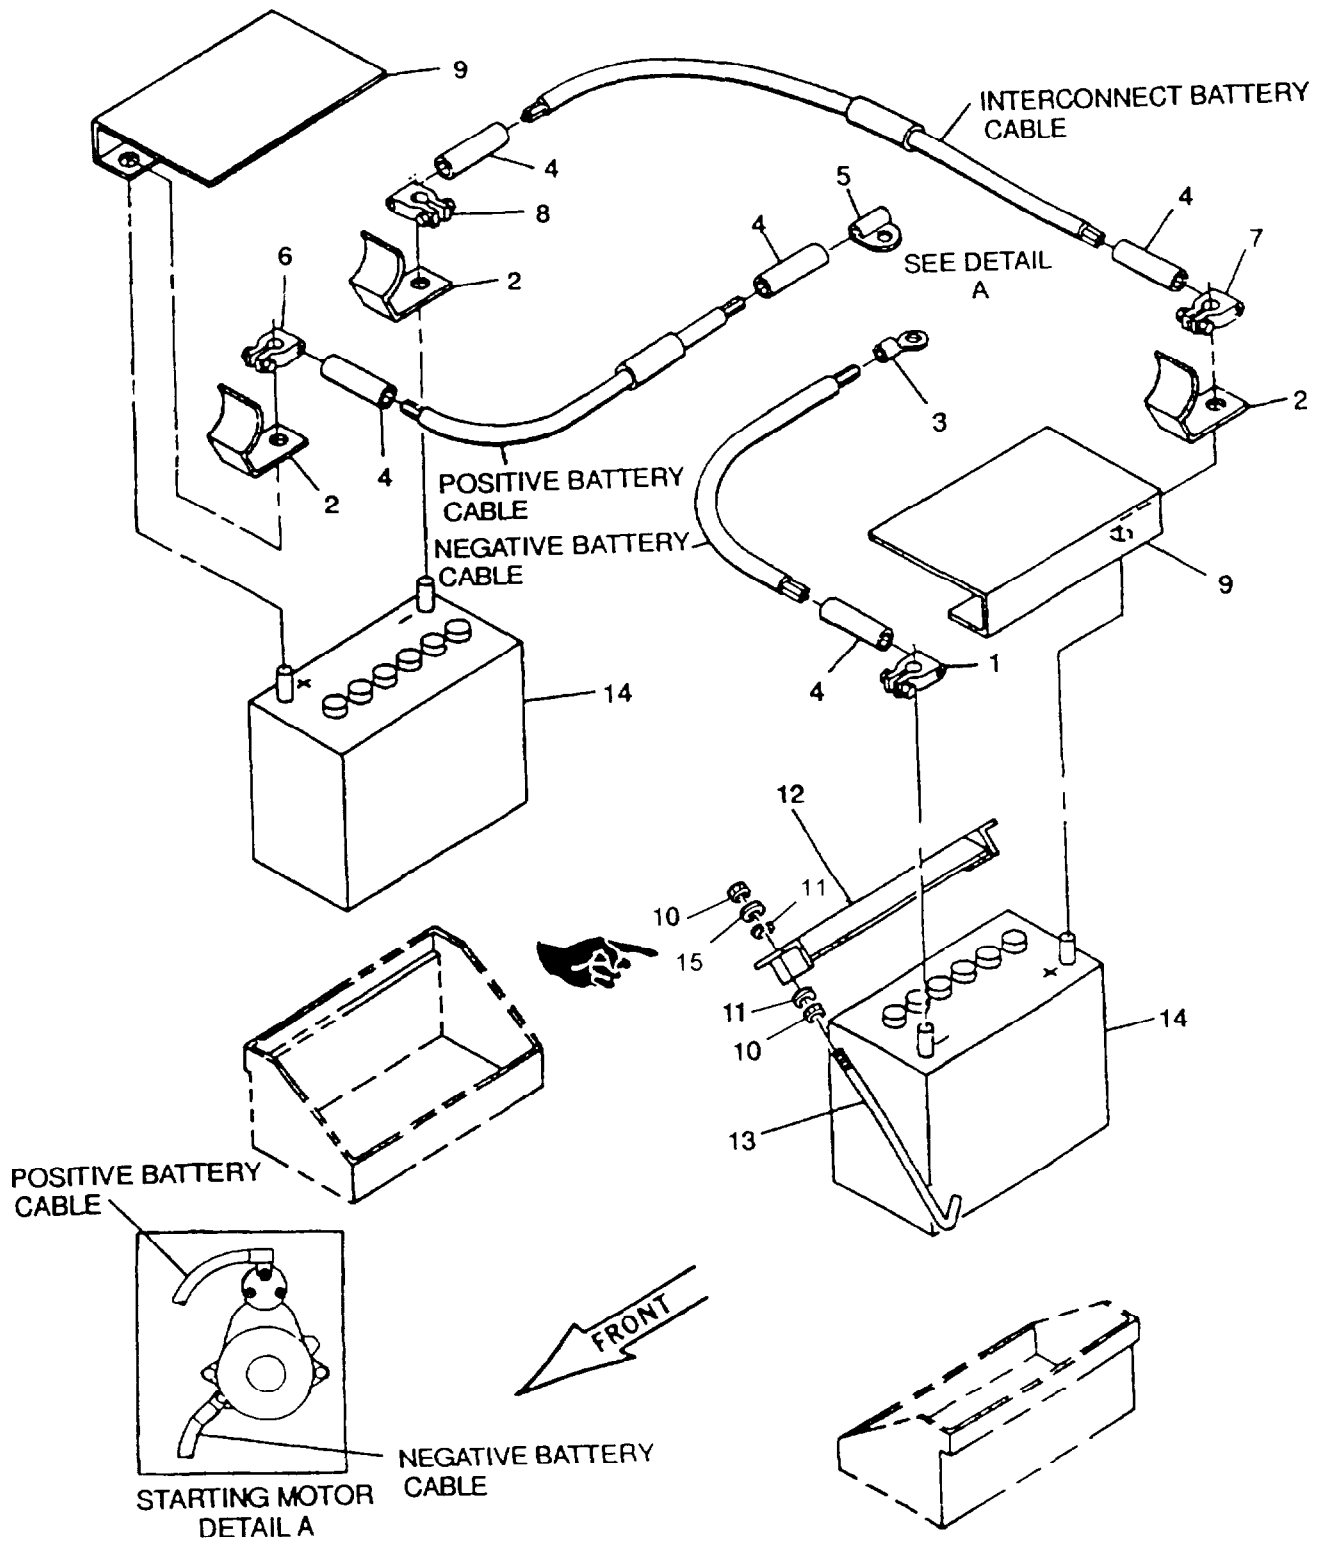
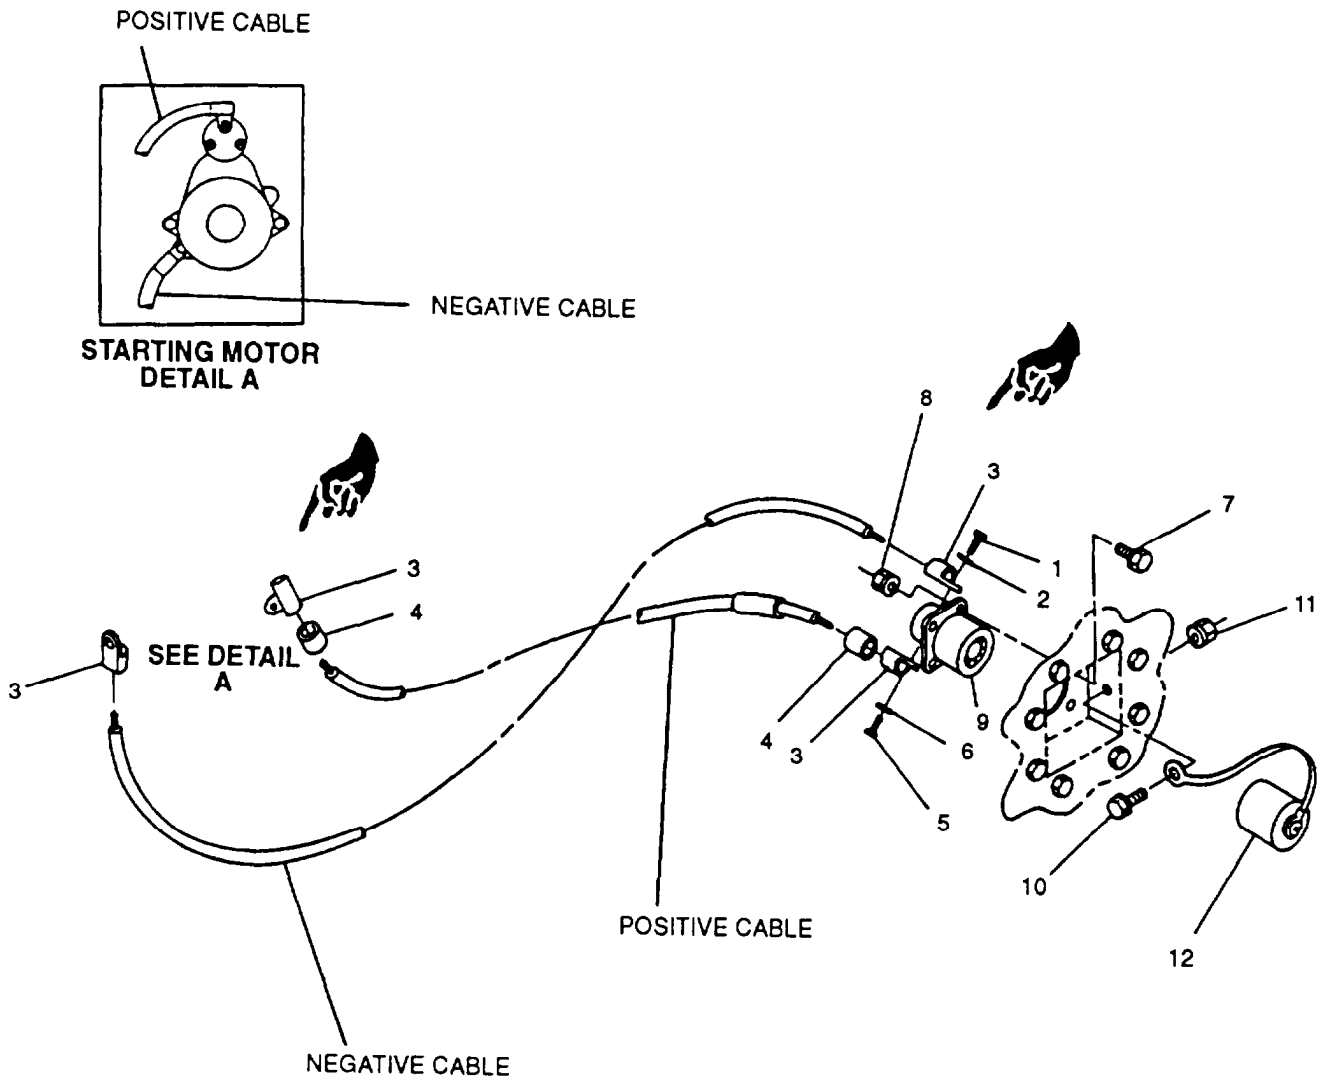

Figure 2-3. Batteries and Cables
FIGURE 2-4. NATO Slave Receptacle and Cables
- c. Disconnect negative battery cable terminal (1, FIGURE 2-3) from battery.
- d. Disconnect and remove applicable cable assembly as shown in FIGURE 2-3 or FIGURE 2-4.
- a. Remove terminal cover(s) (2, Figure 2-3) from battery post(s), if applicable.
- c. Install terminal cover(s) (2), if removed
- a. Remove applicable broken or damaged terminal as shown in Figure 2-3 or Figure 2-4.
- b. Slide new shrinkable tubing (4, Figure 2-3 or Figure 2-4) over cable end.
- d. Heat shrinkable tubing (4) with heat gun until secure.
- a. Install applicable cable assembly as shown in Figure 2-3 or Figure 2-4.
- b. Connect negative battery cable terminal (1, Figure 2-3) to battery.
- c. Disconnect negative battery cable terminal (1, Figure 2-3).
- d. Disconnect positive cable terminal (6).
- e. Disconnect interconnect cable terminals (7) and (8) and remove interconnect battery cable.
- f. Remove terminal covers (2) and battery covers (9).
- g. Remove nuts (10), washers (11), lockwashers (15), retaining bars (12), and retaining clamps (13).
- h. Remove batteries (14).
- c. Remove terminal covers (2, Figure 2-3) and battery covers (9).
- e. Install terminal covers (2) and battery covers (9).
- a. Install batteries (14, Figure 2-3). Ensure that batteries are fully charged.
- b. Install battery covers (9) and terminal covers (2)
- c. Apply grease (Item Appendix ) to battery posts and cable terminals (1), (6), (7), and (8).
- d. Install battery retaining bars (12), clamps (13), washers (11), lockwashers (15), and nuts (10) (both sides)
- c. Open right side engine access door, remove bolt (1, FIGURE 2-4), washer (2), and disconnect negative cable terminal (3) from slave receptacle (9).
- d. Remove bolt (5), washer (6), and disconnect positive cable terminal (3) from slave receptacle (9).
- e. Remove bolts (7), nuts (8), and slave receptacle (9) from generator set housing.
- f. Remove bolts (10), nut (11), and cap (12) from housing.
- a. Insert slave receptacle (9, FIGURE 2-4) into generator set housing.
- b. Secure slave receptacle (9) to generator set with bolts (7) and nuts (8).
- c. Connect slave receptacle positive cable terminal (3) to slave receptacle (9) with bolt (5) and washer (6).
- d. Connect negative cable terminal (3) to slave receptacle (9) with bolt (1) and washer (2).
- e. Attach cap (12) to housing with bolt (10) and nut (11).